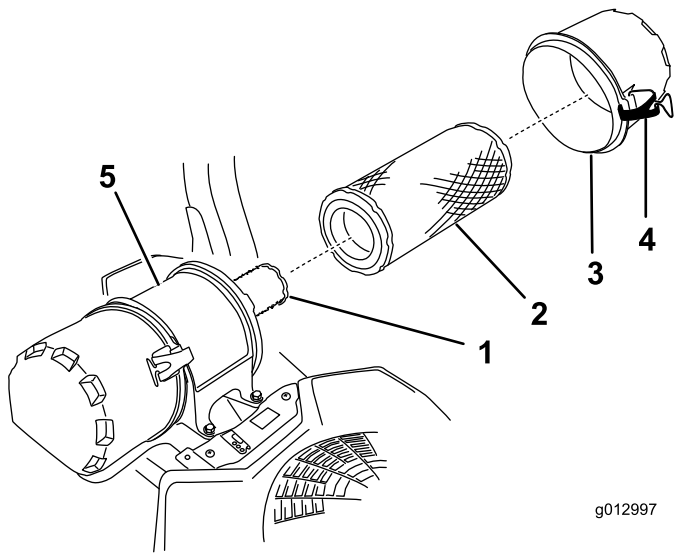

Figure 65
6. Release the latches on the air cleaner and pull the air-cleaner cover off the air-cleaner body (Figure 65).
8. Gently slide the primary filter out of the air-cleaner body (Figure 65).
- If you are replacing the safety filter, carefully slide it into the filter body (Figure 65).
- Carefully slide the primary filter over the safety filter (Figure 65).
- Install the air-cleaner cover and secure the latches (Figure 65).